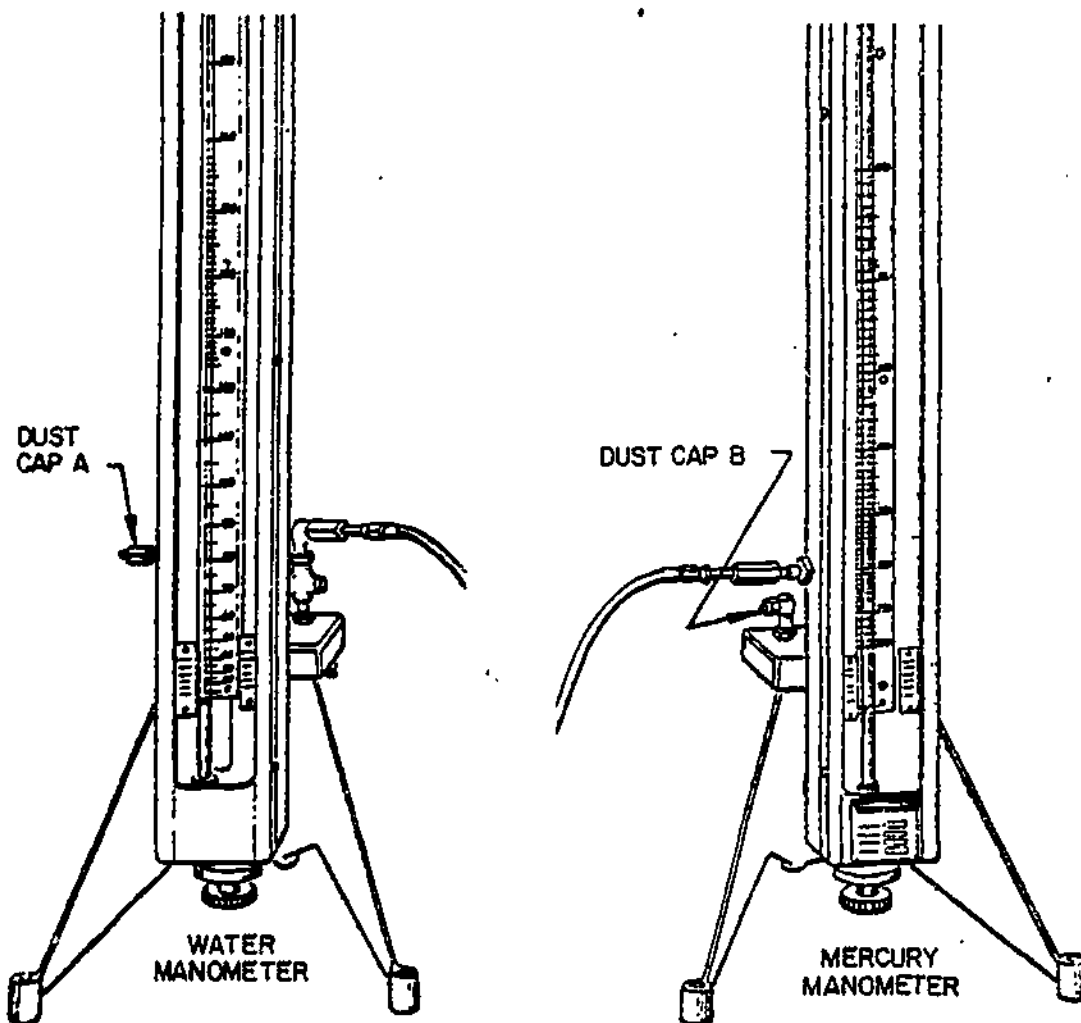

Figure 3.
d. Locate dust caps A and B in figure 3. Remove dust caps A and B and place them on the bench next to the vacuum chamber.